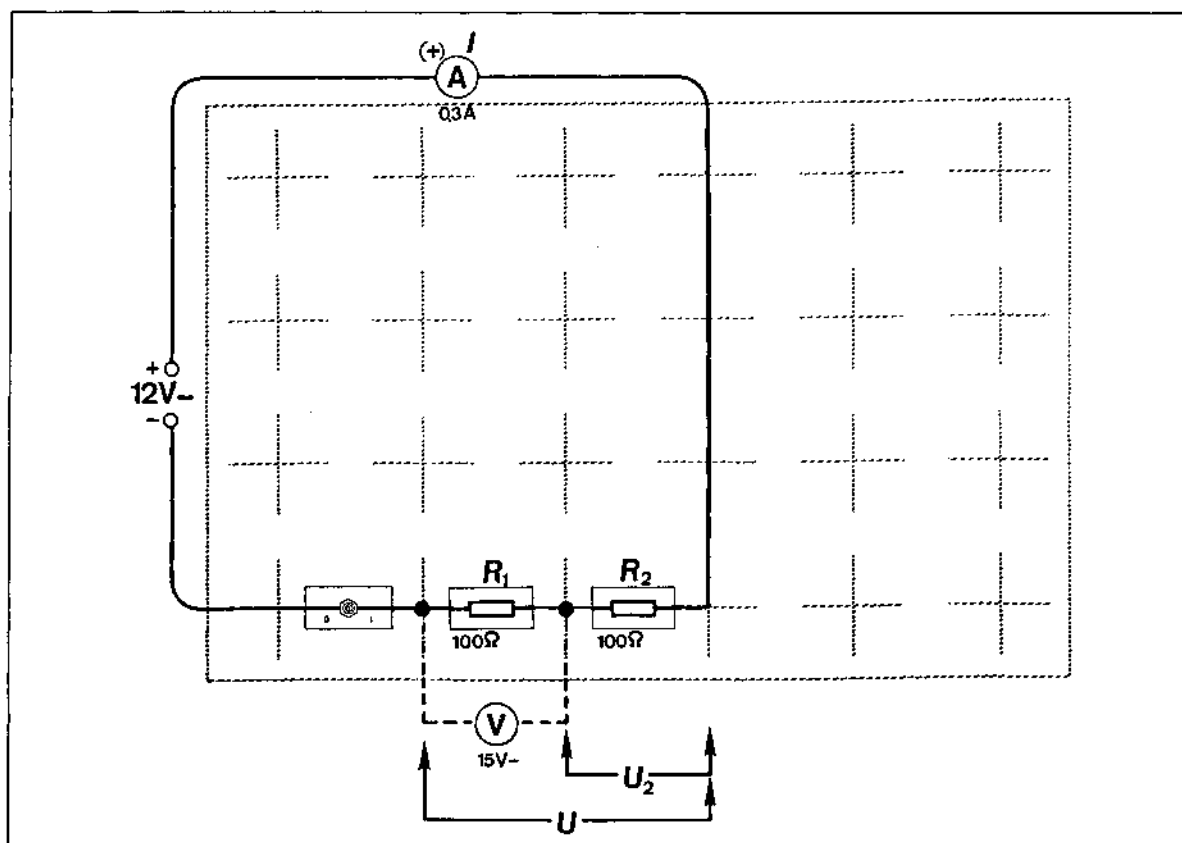

Fig. 1 Experiment setup: Connecting resistors in series
1. Construct the circuit shown in fig. 1.